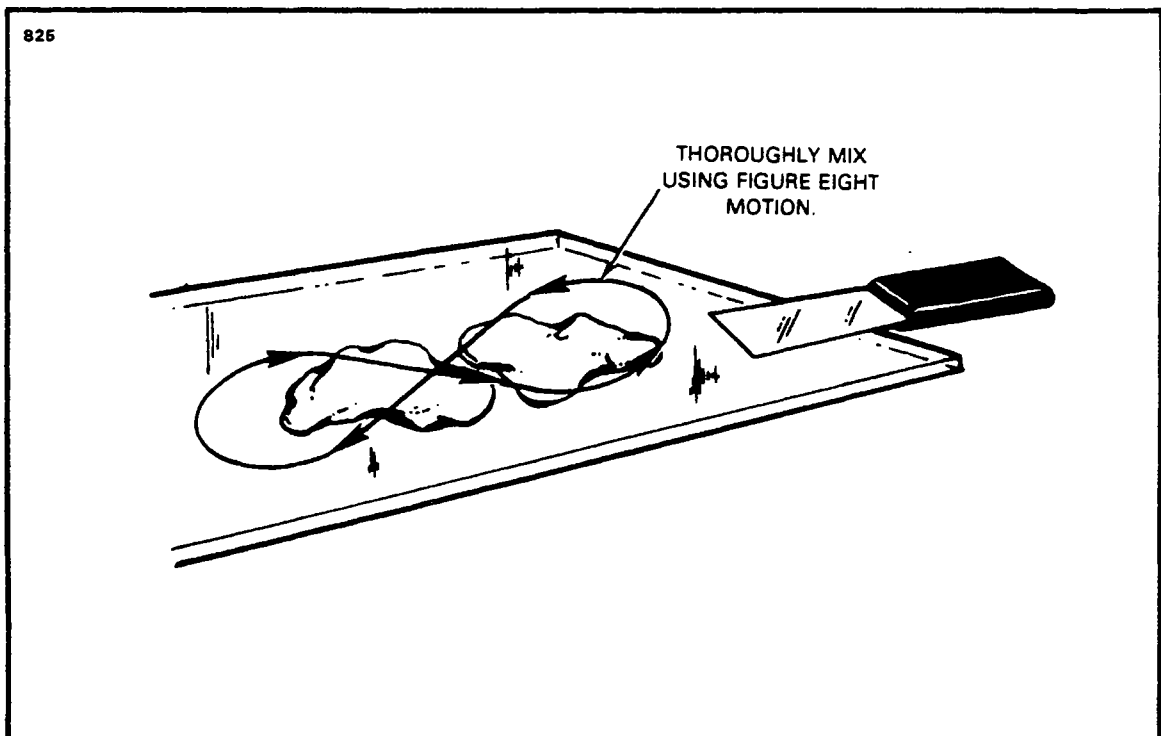

Figure 4-13. Mixing of Epoxy Patching Compound
6. The patching compound is mixed in equal portions on a hard flat surface using a figure eight motion. The damaged area is cleaned with perchlorethylene or VM&P Naptha prior to applying the compound. (Refer to Figure 4-13.)